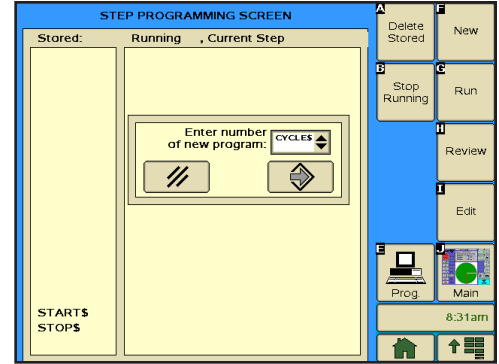

Figure 177-1
1. Push **Prog.** and **Step Prog.** to view the Step Program screen. Refer to Figure 177-1.